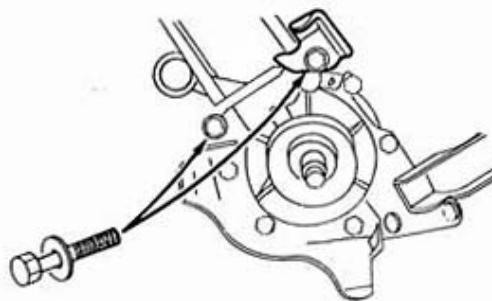

Fig. 4
- Tighten but do not lock the two upper screws after having mounted the lug for securing the belt cover (variator engines) (fig. 4).
NOTE: As far as variator engines are concerned, we recommend the positioning of the belt cover upper mounting lug before locking the crankcase half upper mounting screw. The top of this mounting lug will rest against the cylinder's lowest radiation fins (fig. 4).